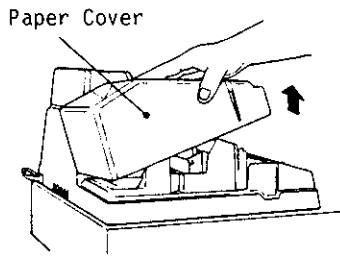

Fig. 1
2. Remove the Paper Cover. (Fig.1)